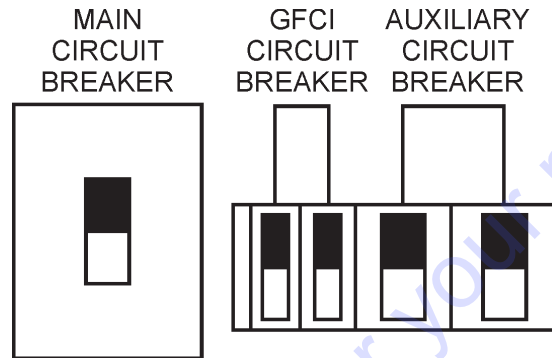

Figure 50. Main, AUX. and GFCI Circuit Breakers (ON)
15. Turn the **main**, **GFCI**, and **aux.** circuit breakers to the **ON** position (Figure 50).